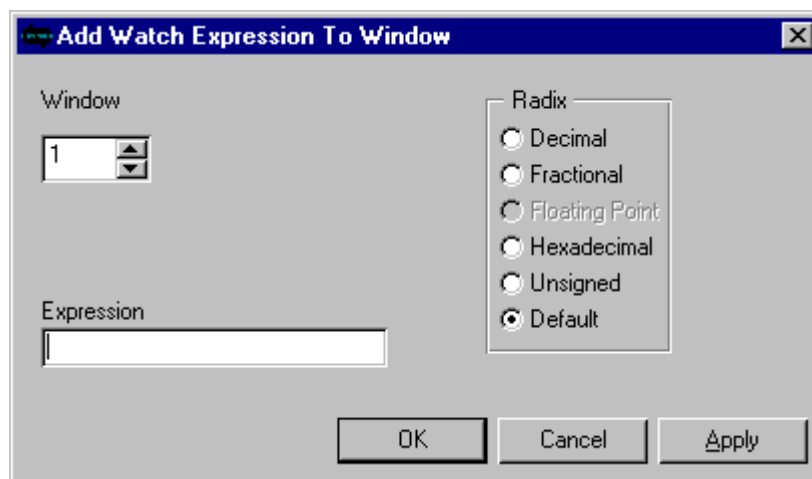

Figure 5-9. Add Watch Expression to Window Dialog Box
1. From the **Windows** menu choose **Watch**. The dialog box in Figure 5-9 appears.